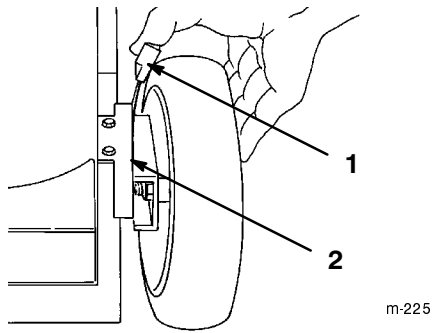

Figure 15
- Squeeze the cutting height adjuster lever toward the wheel (Fig. 15) and move it to the desired setting.